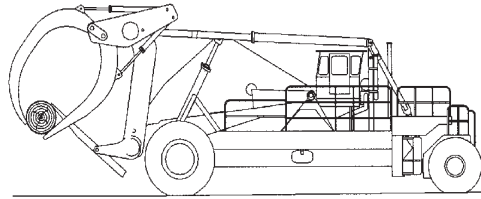

Figure 5-14
- Figure 5-14 shows a good example of the Lumberjack's flexibility. The log is under the tines and is held by the hold-down and kickoff arms. Partial loads should be held with the hold-down and kickoff arms.